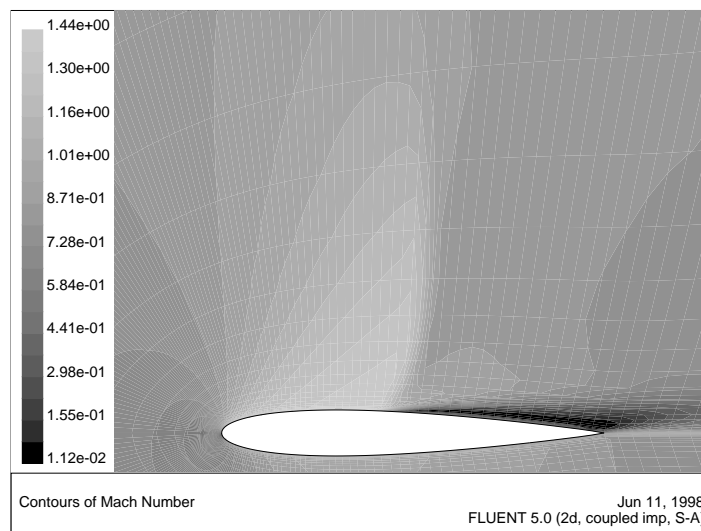

Figure 2.13: Contour Plot of Mach Number
2. Display filled contours of Mach number (Figure 2.13).